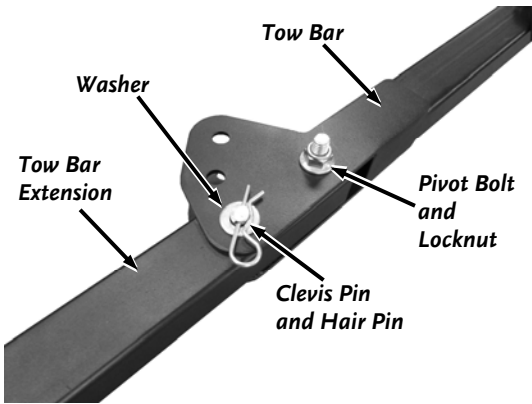

Figure 15
5. Remove the Hair Pin, Washer, and Clevis Pin from the Tow Bar (**Figure 15**).